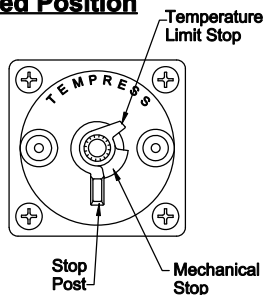

Fig. 8
- After plastering and/or tiling is complete, remove plastic installation cover and plastic diverter cover (if applicable) - See Fig. 4. Make sure stem broach (See Fig. 8) is completely in the off position. (Fully rotate clockwise)
All *California Faucets* pressure balance valves are equipped with a Temperature Limit Stop. This device (See Fig. 8), can be adjusted to limit the maximum temperature of the water delivered by the valve. The Temperature Limit Stop is set at the factory in a neutral position. Set or adjust as follows:
- 2 Rotate stem broach clockwise to fully closed position (See Fig. 8).
- 3 Remove stem broach by inserting a long, narrow Phillips head screw driver into the center of the broach and unscrewing the internal screw. Lift off thin brass temperature limit stop (See Fig. 9). Rotate stem broach fully closed and make sure mechanical stop is to the right against stop post (See Fig. 8). Rotate broach counter clockwise until the desired maximum temperature is reached. Replace temperature limit stop so it rests at the left side of the stop post (See Fig. 11).
- 1 Remove valve handle, faceplate and stem broach as described above. **Important: Make sure broach is in the off position and note the settings of the mechanical stop and the temperature limit stop (See Fig. 8).**
- 9 Rotate stem broach fully clockwise (do not apply excessive force), fit mechanical stop and temperature limit stop as above (See Fig. 8).